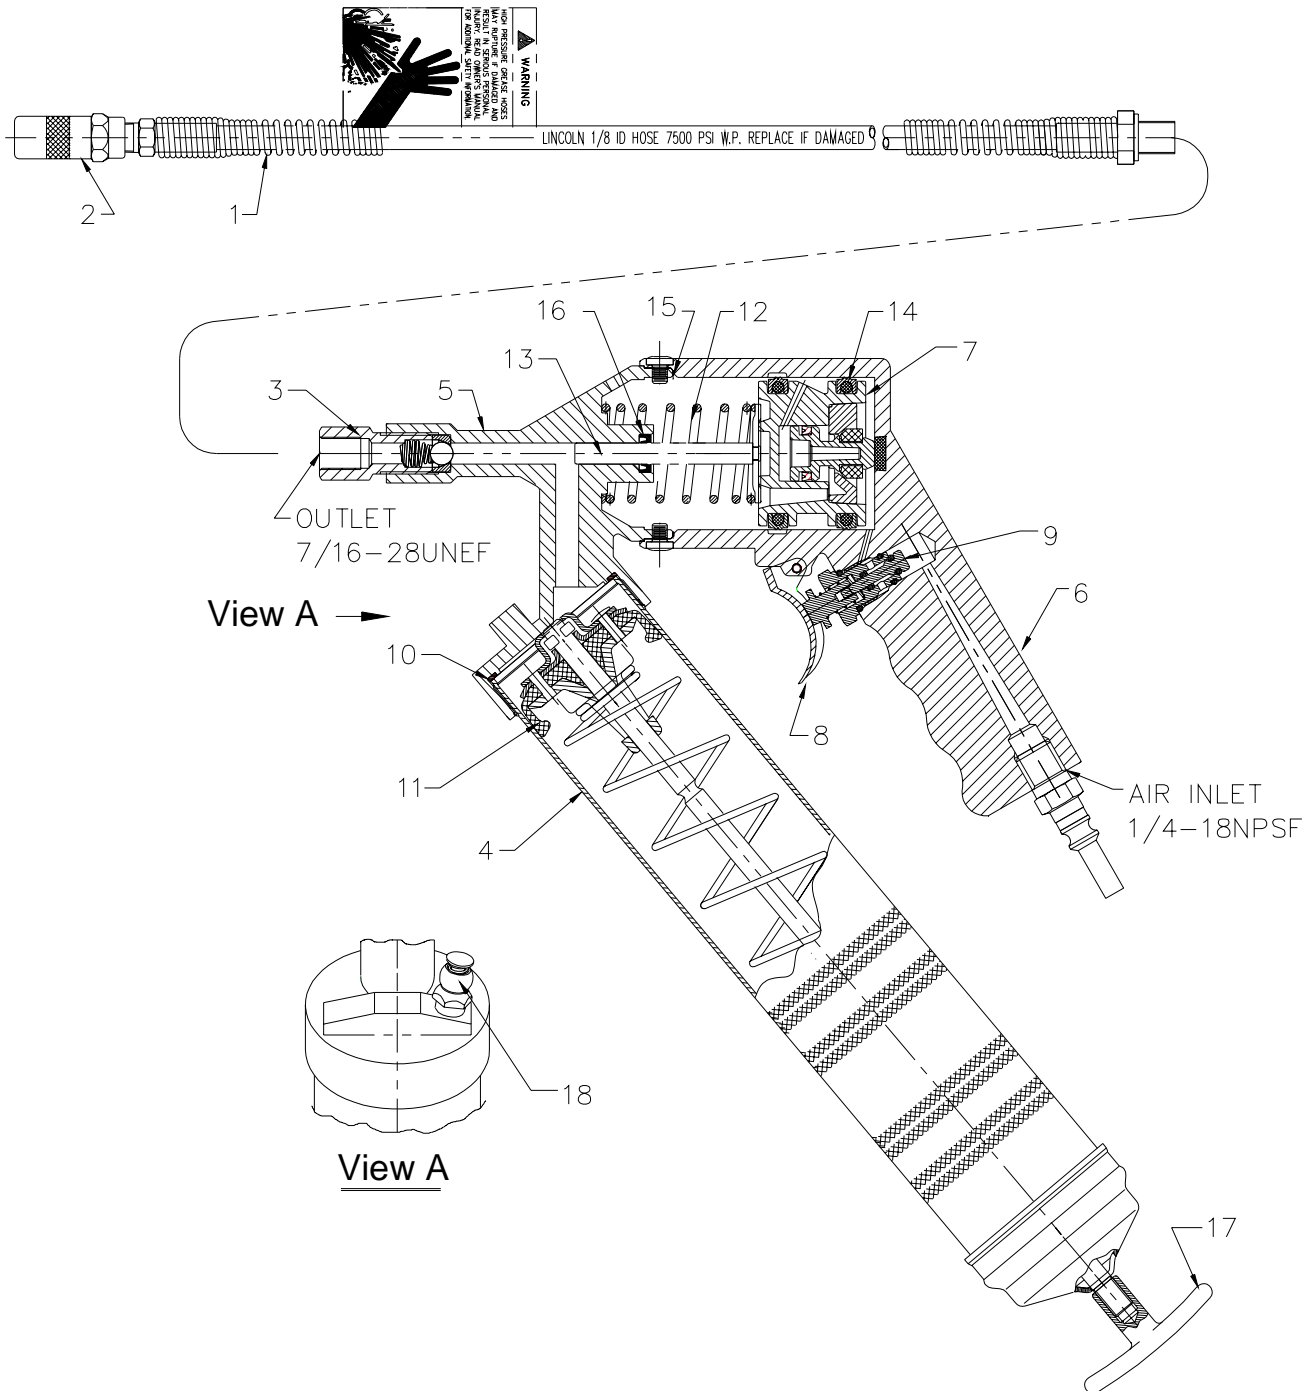

Fig.6
To prime, operate the gun until grease flows from the hose. Use vent valve (18) (Fig.6) to expel air pockets. If prime cannot be achieved after gun operates for 10-15 seconds, disconnect the extension hose or rigid connection and operate the gun until grease flows from the outlet. The gun can stall if the bearing, fitting or lubrication line is blocked. Correct this before continuing to lubricate with the gun.
- 1) Withdraw the follower rod from the grease tube assembly cap and engage it with the follower by rotation the follower handle. Exert the force on the follower handle while holding down the vent valve 18 (see Fig. 6).